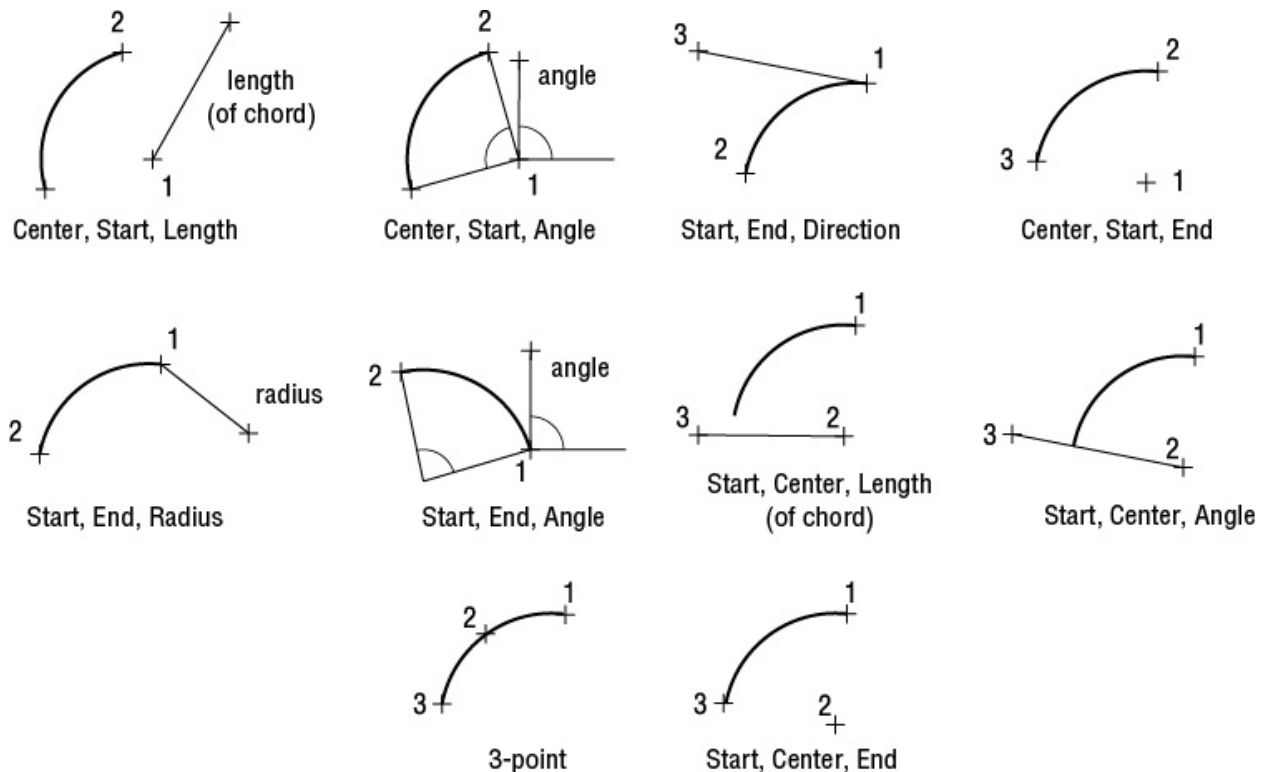

FIGURE 3.11 Examples of how the Arc flyout options work
1. Click the 3-Point Arc tool in the Home tab's Draw panel or type **A↵**. See Figure 3.11 for other Arc options available from the Draw panel's Arc flyout.